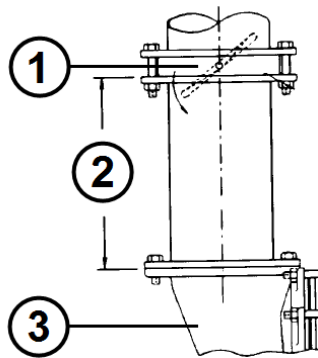

Fig. 13 Correct positioning of the throttle valve in the inlet pipe (detail)
2. Ensure that a settling section of twice the pipe diameter is observed (→ Fig. 13, page 20).
3. Observe the correct alignment and opening direction of the throttle valve (→ Fig. 13, page 20).